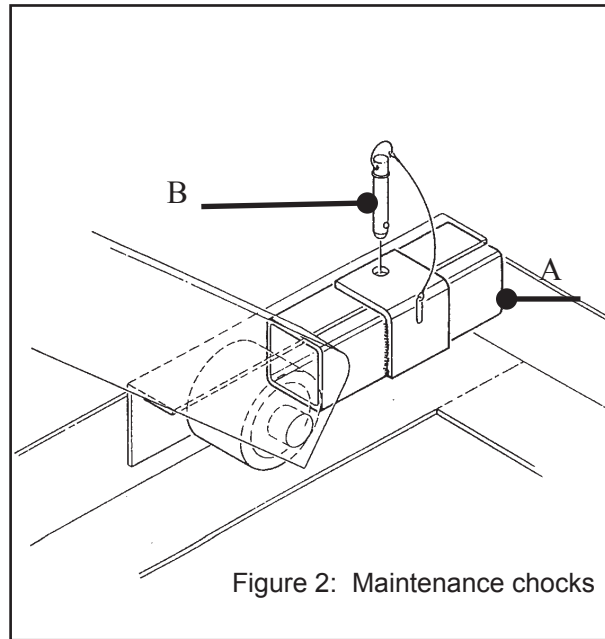

Figure 2: Maintenance chocks
- a) Build pit to standard pit dimension as outlined in figure 2, paying careful attention to raceway, clearance and height requirements.
The AX, AXR, AXS, AXT, AT Series and the AL Scissors Lifts are designed to be maintained and serviced in a raised position. Maintenance chocks are provided for locking the lift in a raised position. Refer to Figure 2.